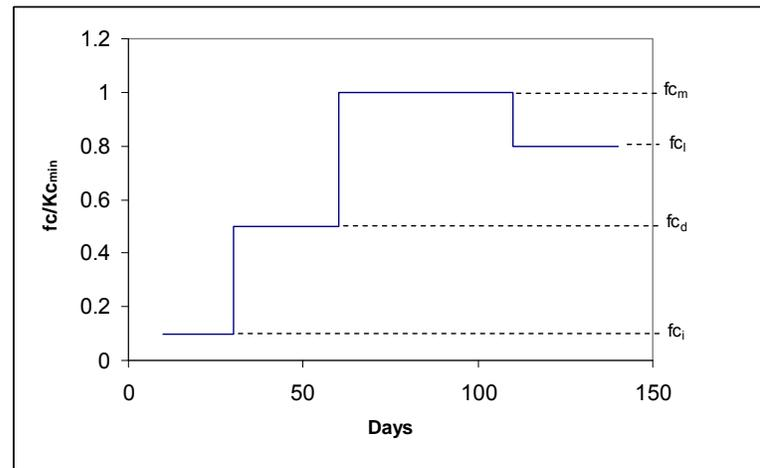

Figure 8. Example of time varying f_c (or $K_{c_{min}}$) as specified in the Growth Stage Table.
9. Soil cover fraction / Kc minimum (fc / Kc_{min}) - fc is the soil cover fraction (dimensionless), Kc_{min} is the minimum Kc for dry bare soil with no ground cover (dimensionless). If fc is to be specified then the user enters a value for each growth stage. If fc is to be calculated by LAWS then this column changes to Kc_{min} and a value should be entered for each growth stage (Figure 8, Table 1). Representative values of fc can be found in Table 21 of FAO 56.